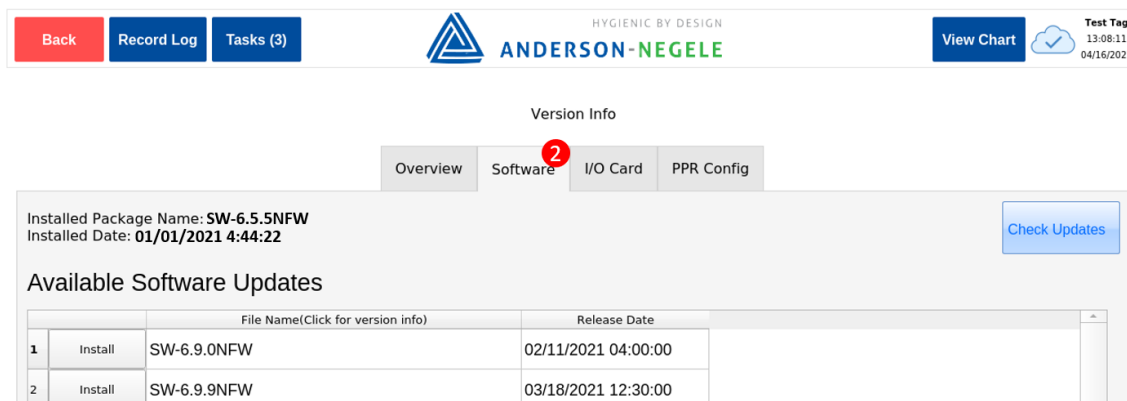

Figure 51: Version Software Screen
**Software Updates:** PPR enables authorized users to install over the air (OTA) software updates, which must be initiated through the PPR HMI. To check for new software updates, press the *Check Updates* button located on the top right portion of the Software screen, see Figure 51 below. Access to install software updates is limited to Users with configuration access credentials (controlled in *Legendary™*)